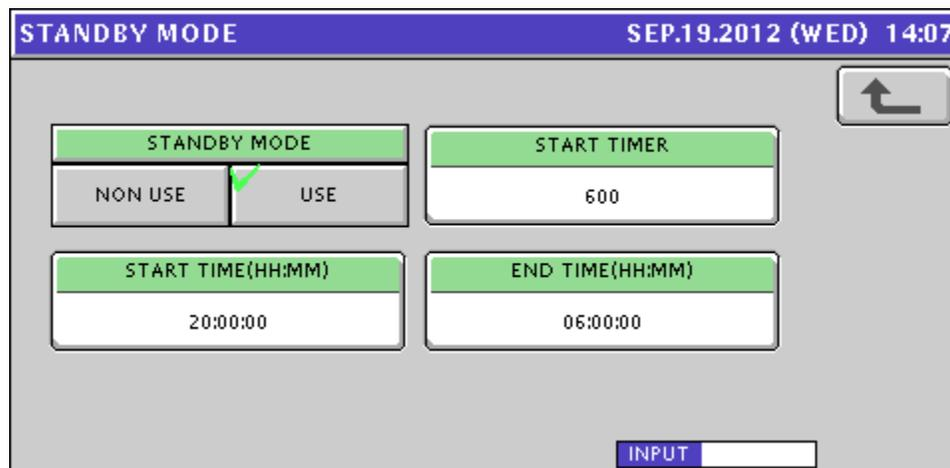

Figure 7.5. Standby Mode
- Enter the settings as needed. See Figure 7.5.